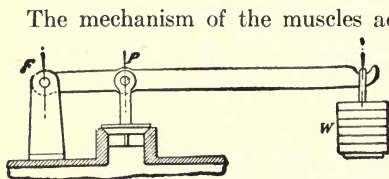

FIG. 13.—A Safety Valve. A lever of the third class.
**33. Levers of the Third Class.**—In the third type of lever the fulcrum is at one end, the weight at the other, and the force is placed between them (Fig. 13). The advantage of this arrangement is that a small force causes the extreme point of a long arm to move over a great space.
5. A safety valve on a stationary boiler is loaded with a 50-lb. weight at  $W$  (Fig. 13). Distance  $FP$  is 4 in.,  $PW$ , 12 in. Find the total steam pressure necessary to open the valve.